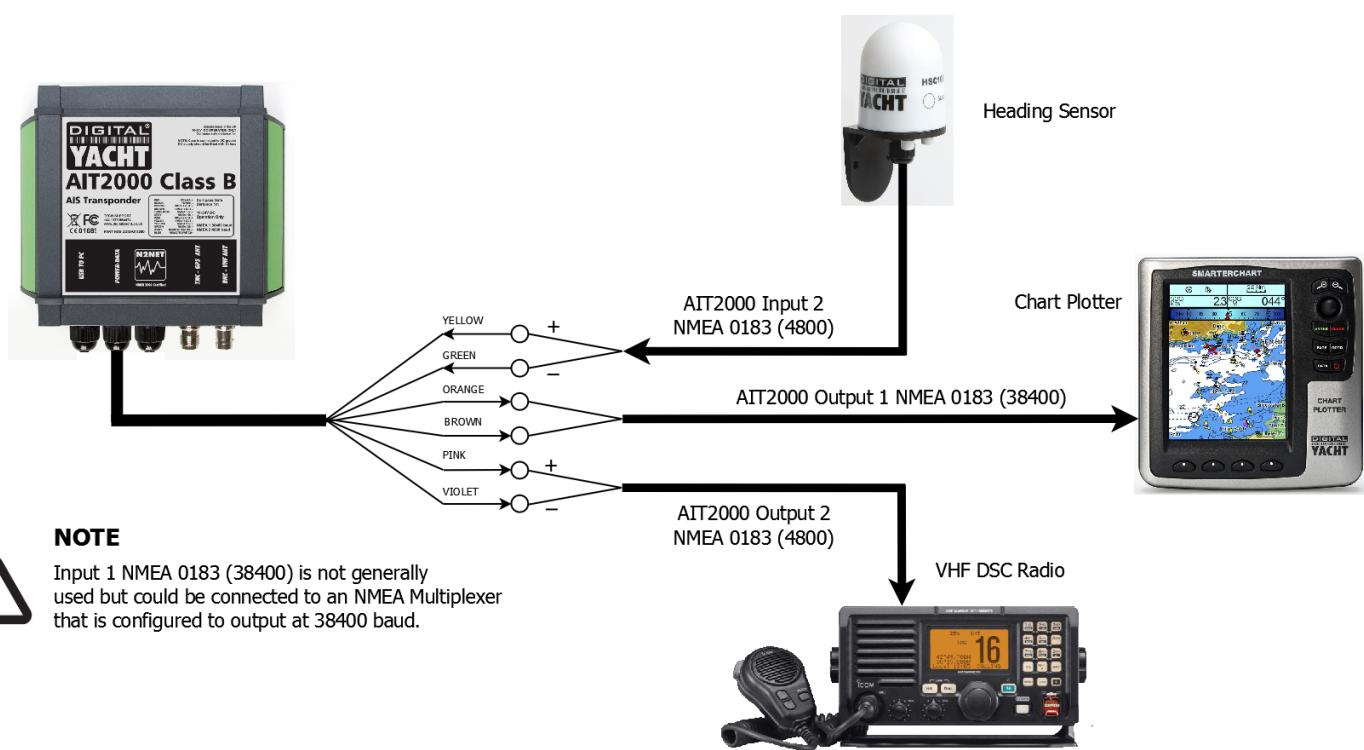

Figure 6
- Figure 6 below is a diagram of a typical installation showing the NMEA 0183 data connections. The Heading data (or any instrument data) received on Input 1 is multiplexed (combined) with the AIT2000's own AIS and GPS data and sent to the Chart Plotter on Output 1 (38400 baud). The GPS inside the AIT2000 is used to provide the VHF DSC radio with GPS position data on Output 2 (4800 baud).